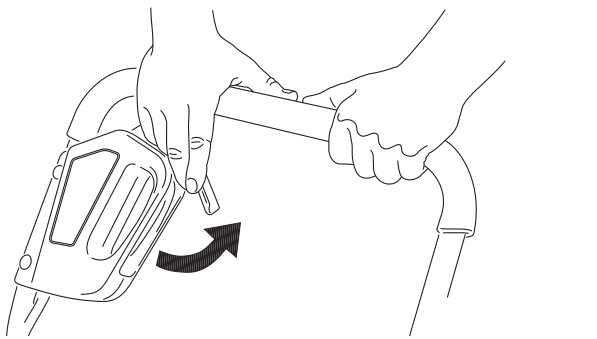

Figure 9
- Squeeze the control lever to the handle (Figure 9).